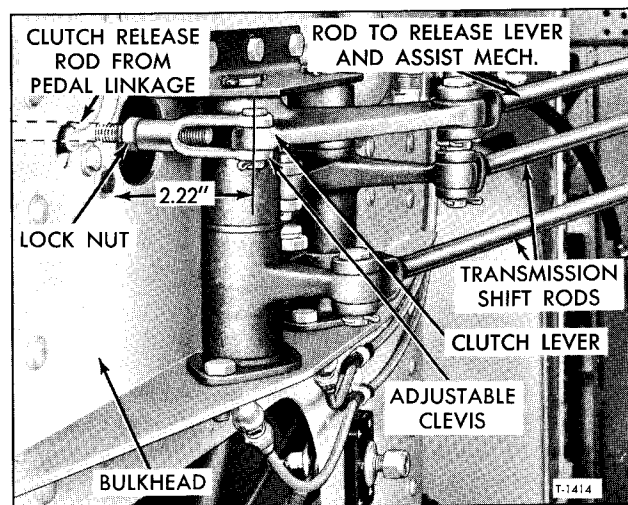

Figure 5—Clutch Bell Crank Lever Position at Bulkhead
The clutch control bell crank and adjustable clevis at rear end of clutch rear control rod are accessible through opening under rear cross seat, inside coach body. Figure 5 shows view of bell crank and rods.
3. Check lock nut (5) at clevis (3). Be sure that clevis yoke is in vertical position and lock nut is firmly tightened.
4. Remove clevis pin (9), then install bolt (21) to attach rod end bearing (4) to clevis (3). Lubrication fitting on bearing must be on top. Tighten clevis bolt (21) to 40 foot-pounds torque.
5. Check linkage at front end and at bell crank on engine compartment bulkhead to see that linkage is properly adjusted, before installing clevis pin (9) at toggle lever. Clutch pedal lever must be held at the 5-inch dimension from floor as shown in figure 3, and bell crank position must be located as shown in figure 5. Check to see that toggle lever (17) is resting against stop stud (16). Adjust clevis (8) to permit pin (9) to enter freely through clevis and toggle lever. Install clevis pin and tighten lock nuts (5) at spring clip (19).
6. Adjust release bearing clearance with adjusting handle (2), then install lever spring (22).